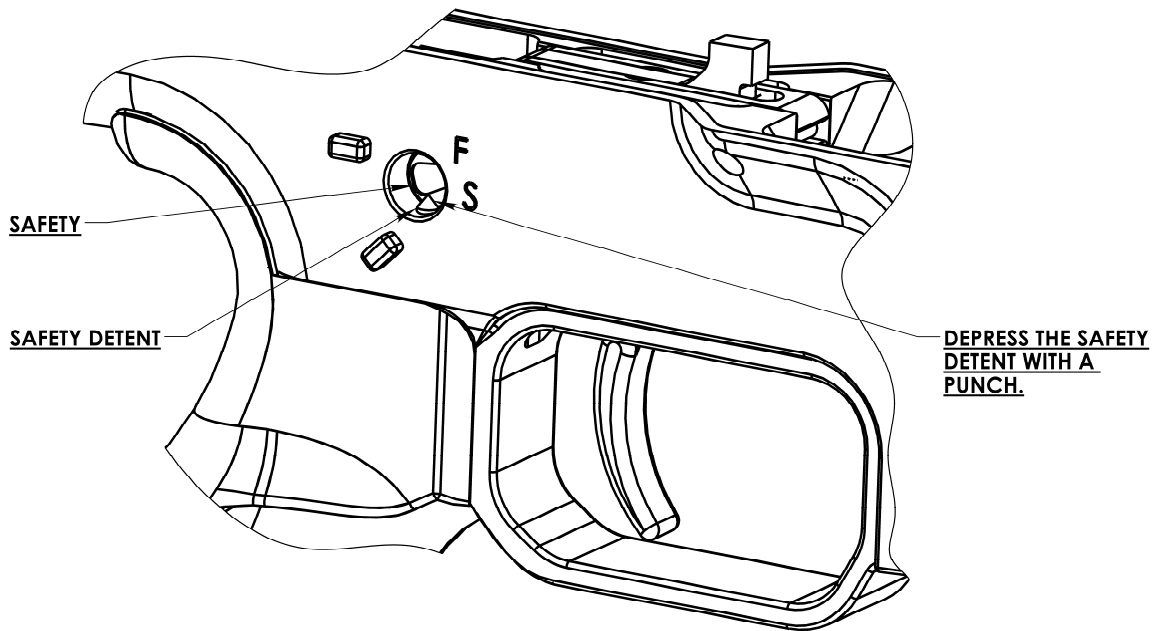

Figure 31, Installation of the safety.
2. Insert the safety into the receiver until it stops on the safety detent. Using a punch depress the safety detent and finish inserting the safety into the receiver. The safety lever must be between the limiting stops on the lower receiver. Figure 31.